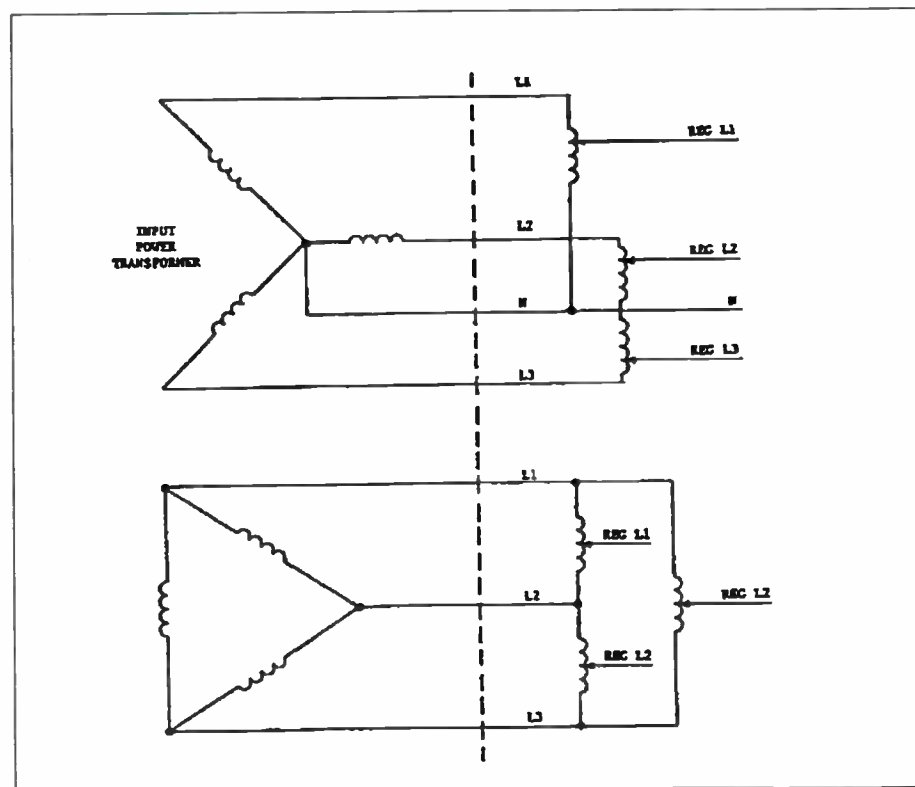

Figure a-3. Regulators in Delta and 4/Wire WYE Systems
- Remedy - Automatic voltage regulators, preferably individual regulators on each phase. This can only be accomplished when the power feed line is delta or 4/wire wye connected. (See Figure A-3.)